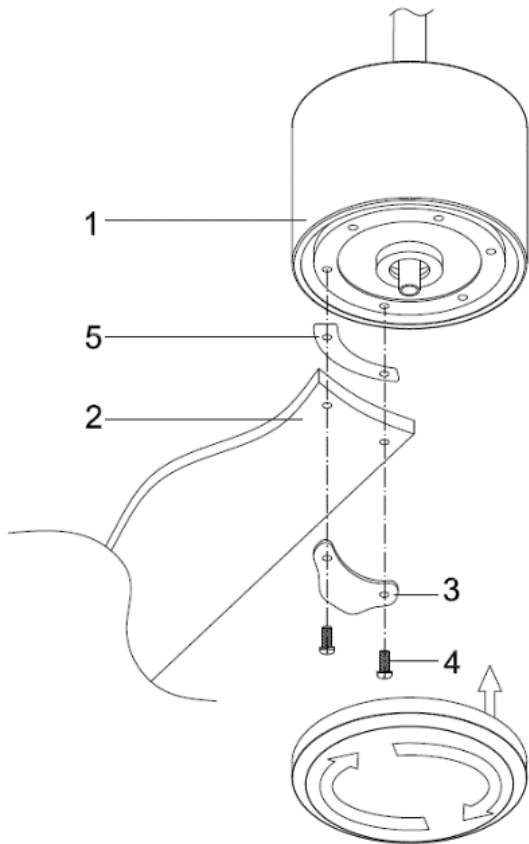

Fig. 5
- Insert the blade screws (4) through the blade bracket (3) and place on the underside of blade (2). (Fig. 5)
- Place the blade gasket (5) on the topside of the blade. (Fig. 5)
- Align the screws with the holes and secure the blade onto bottom of the fan motor (1). Ensure the screws are tightened equally and evenly. Over tightening the screws can damage the blade (2). (Fig. 5)